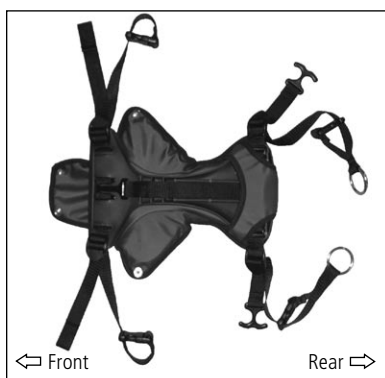

Figure 21. Underside of Hip Positioner with Pad
- Adjust the height, angle, and strap length to guide the stride of the user (see Figure 21).